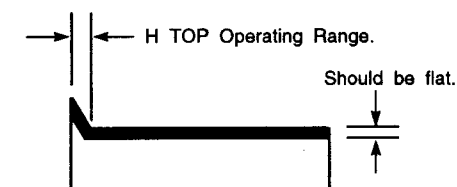

Fig. 5-1-37
- Adjust VR9 so that the shading portion level becomes flat level as shown in Fig. 5-1-37.
- Adjust VR5 so that the shading portion level becomes flat level as shown in Fig. 5-1-37.
- Adjust VR13 so that the shading portion level becomes flat level as shown in Fig. 5-1-37.